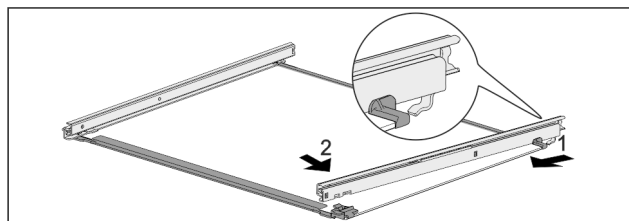

Fig. 128 Glass shelf with rails
- ▶ Hook in rail at the back. Fig. 128 (1)
- ▶ Hook in rail at the front. Fig. 128 (2)